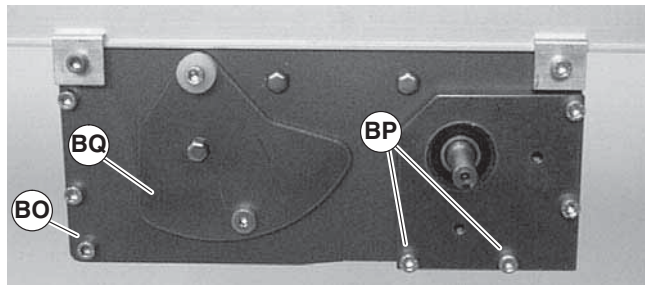

Figure 35
10. Tighten corner screws (Figure 35, item BO) on each side of the drive module to 80 in-lb (9 Nm).
12. Re-install tension door screws (Figure 35, item BP) on each side of the module. Tighten screws to 80 in-lb (9 Nm).